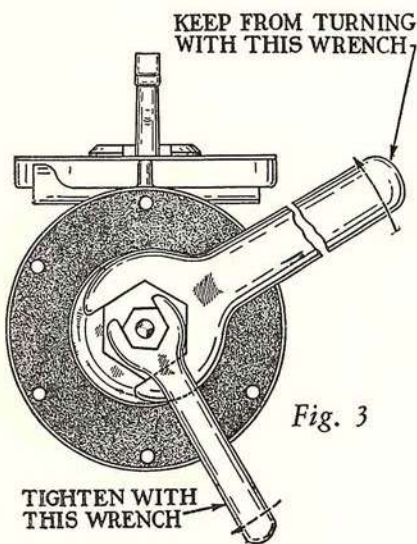
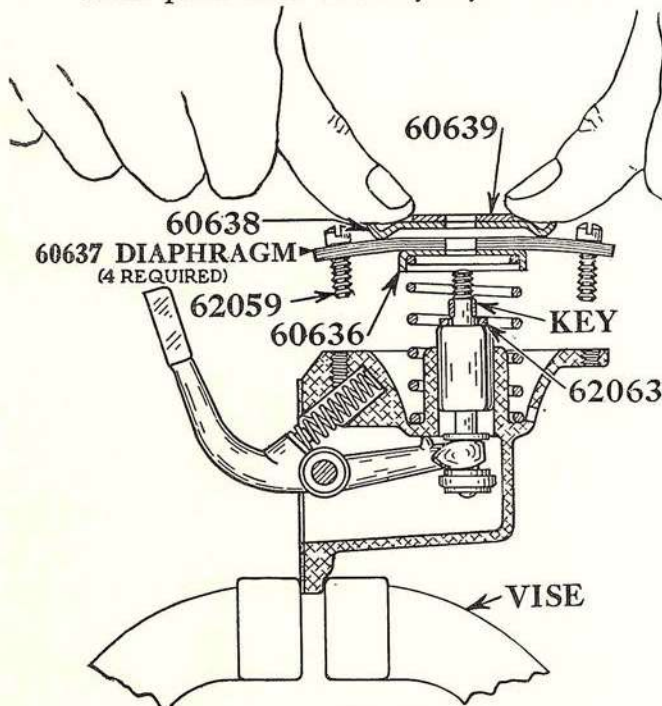

Fig. 3
Fig. 4
2. Unscrew the nut with two wrenches as shown in Fig. 3.
3. Clamp pump body in a vise, as shown in Fig. 4. Lay four pieces of diaphragm material on top of spring retainer as shown. Insert 2 screws through the holes in diaphragm material to line up the holes. Lay the two washers on top of the diaphragm material as shown. These parts have two keyways in center
hole. Turn the parts so keyways are in line with each other and the key on the connecting plunger stud. Then press down on the retaining plate and push these parts over the stud (see Fig. 4). Be sure the key enters keyway. Then while holding diaphragm in this position, screw on the retaining nut first by hand, then tighten with two wrenches, as shown in Fig. 3.